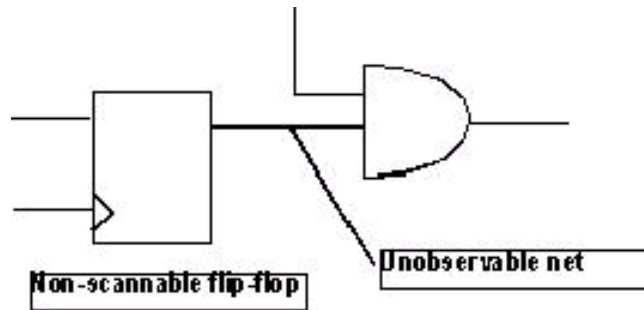
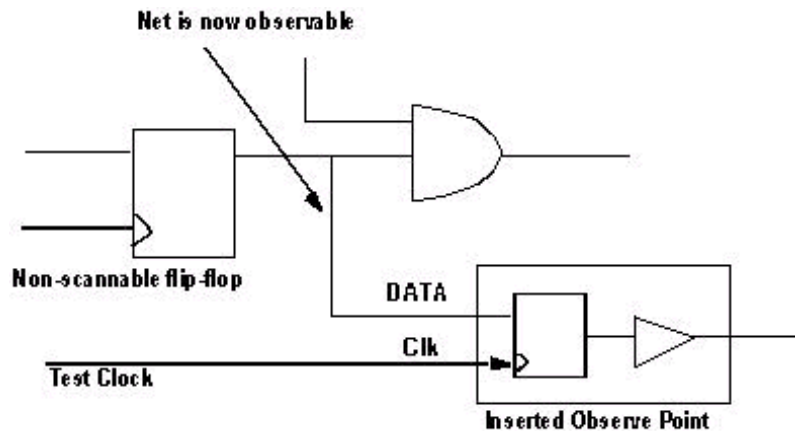

FIGURE 93. Unobservable Net
FIGURE 94. Observable Net
- For unobservable nets (as shown in Figure 93), an observe point is inserted. The observe point is a module (the module structure is shown in Figure 94) having a hanging output.